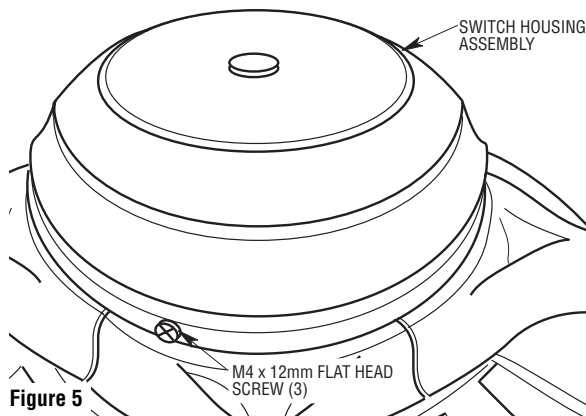

Figure 5
- 6. Position the switch housing assembly on the switch housing plate and align the holes in the switch housing assembly with the holes in the plate. Secure the switch housing assembly by installing the three M4 x 12mm flat head screws (supplied) (Figure 5).